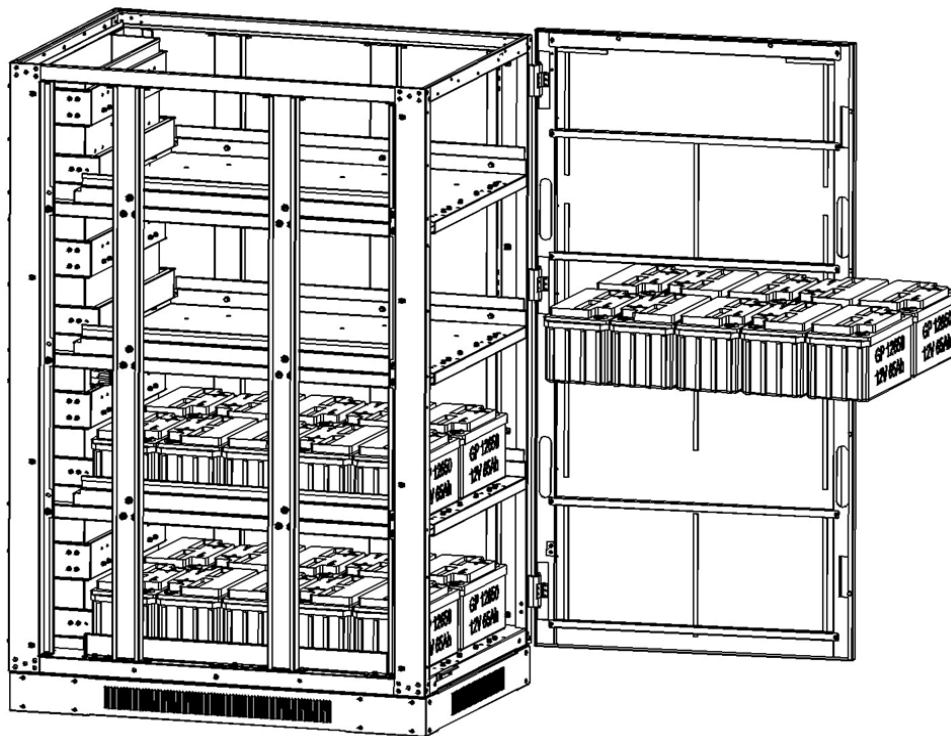
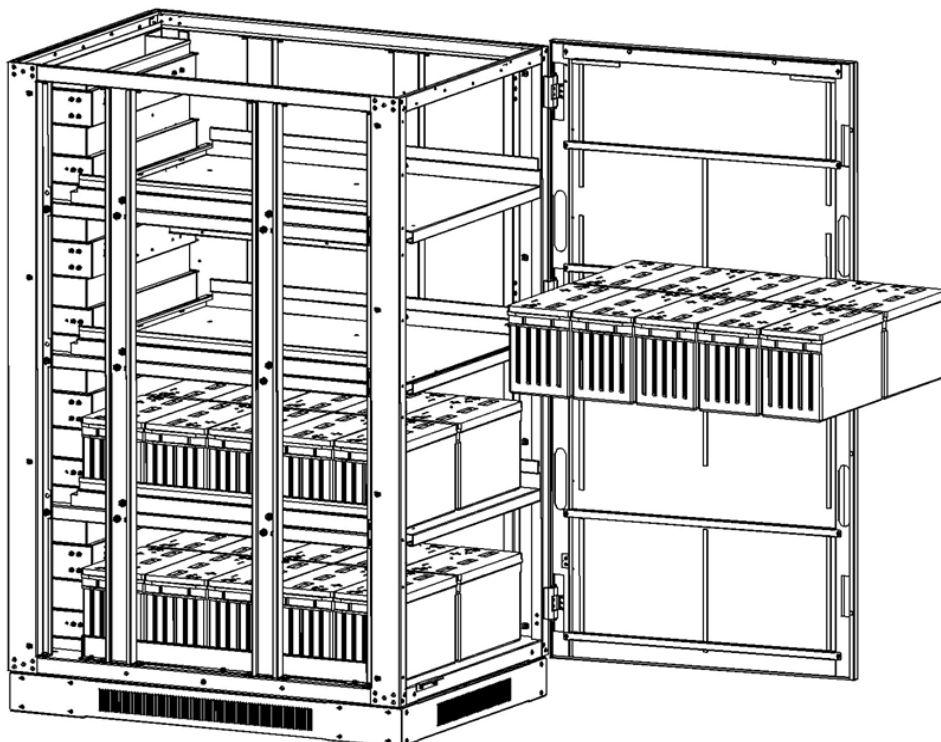

Figure 5-35: Model BP240V65L-NIB
Figure 5-36: Model BP240V100L-NIB
6. Install 10 battery packs in layer 3 (Figure 5-35: Model BP240V65L-NIB or Figure 5-36: Model BP240V100L-NIB).